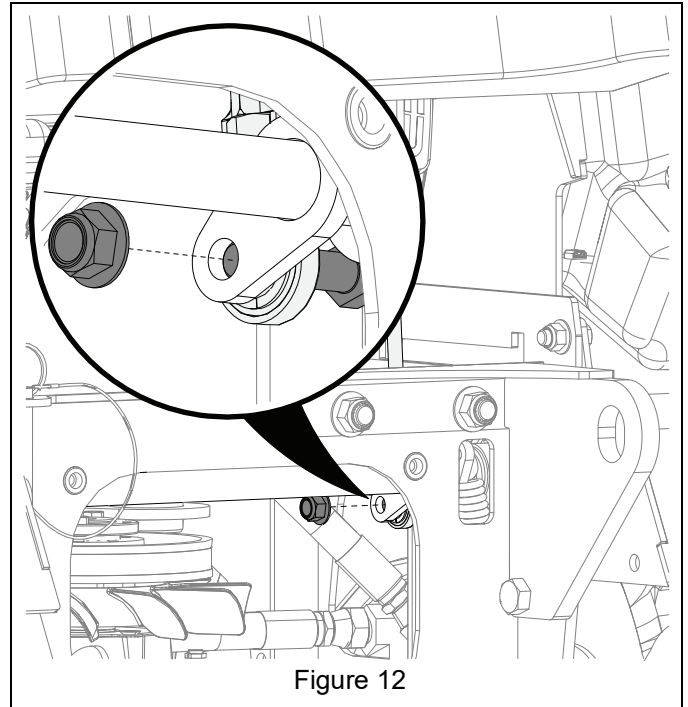

Figure 12
9. Reconnect parking brake rod using hardware removed earlier. See Figure 12.